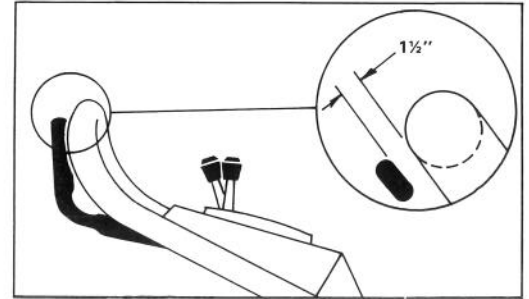

Figure 20
3. Lift control bar until some resistance is felt. Control bar should be 1½" from handle when properly adjusted (Fig. 20).